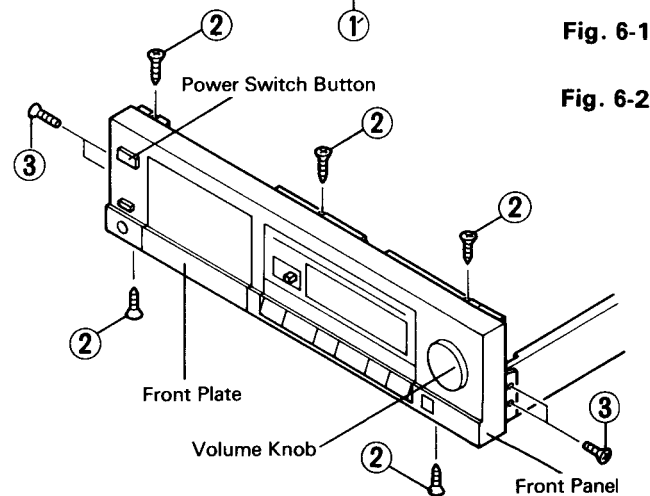

Fig. 6-2
Remove five screws ② retaining the top and bottom side of the front plate. (Fig. 6-2)
1. Remove four screws ③ retaining the both sides of the front panel. (Fig. 6-2)